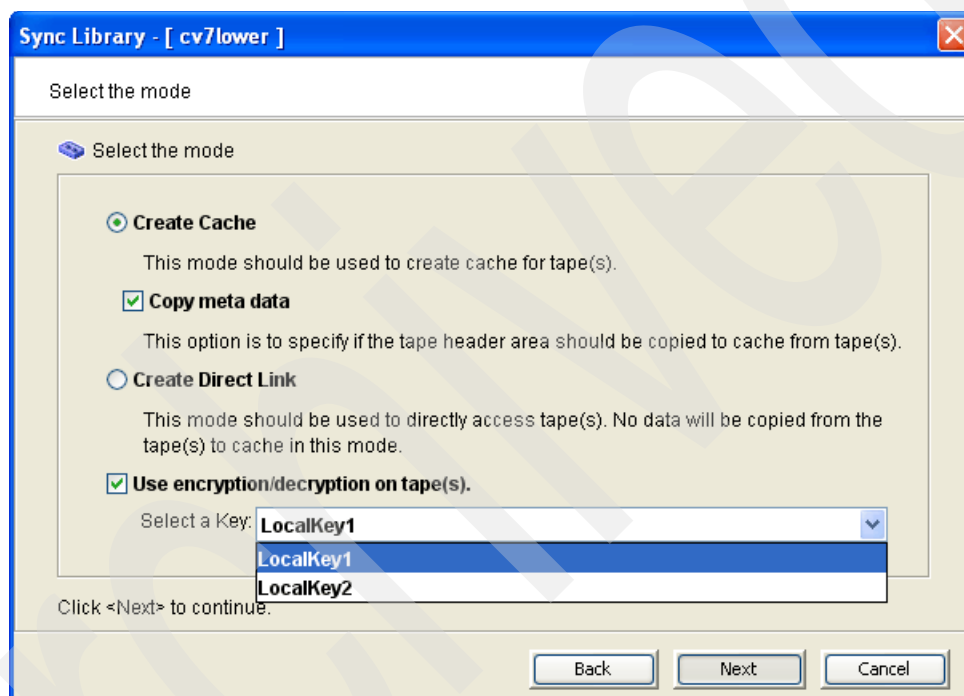

Figure 12-47 Select the Enhanced Tape Caching mode
4. As shown in Figure 12-47, you have the option of selecting Create Cache or Create Direct Link.
- If you select **Create Cache**, a cached virtual tape volume is created for each physical tape volume selected on the Select physical tapes to be synchronized window (Figure 12-47). If your backup application requires a tape header to identify a tape, you must also select **Copy meta data**.